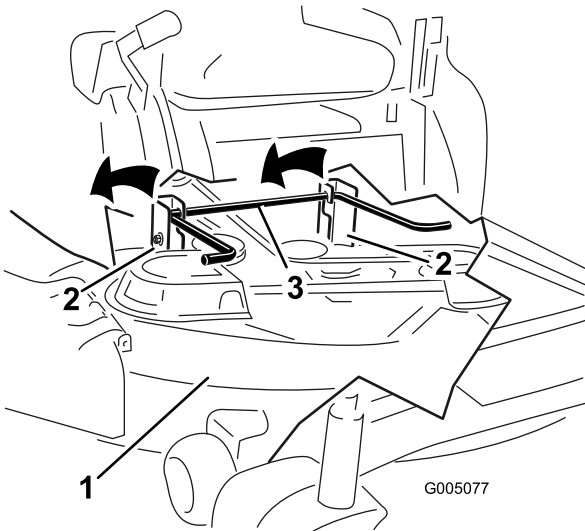

Figure 54
5. Using the mower deck handles, lift the mower deck and hanger brackets clear of the rear lift rod and lower the mower carefully to the ground (Figure 54).
- Lift the rear of the mower deck and guide the hanger brackets over the rear lift rod (Figure 54).